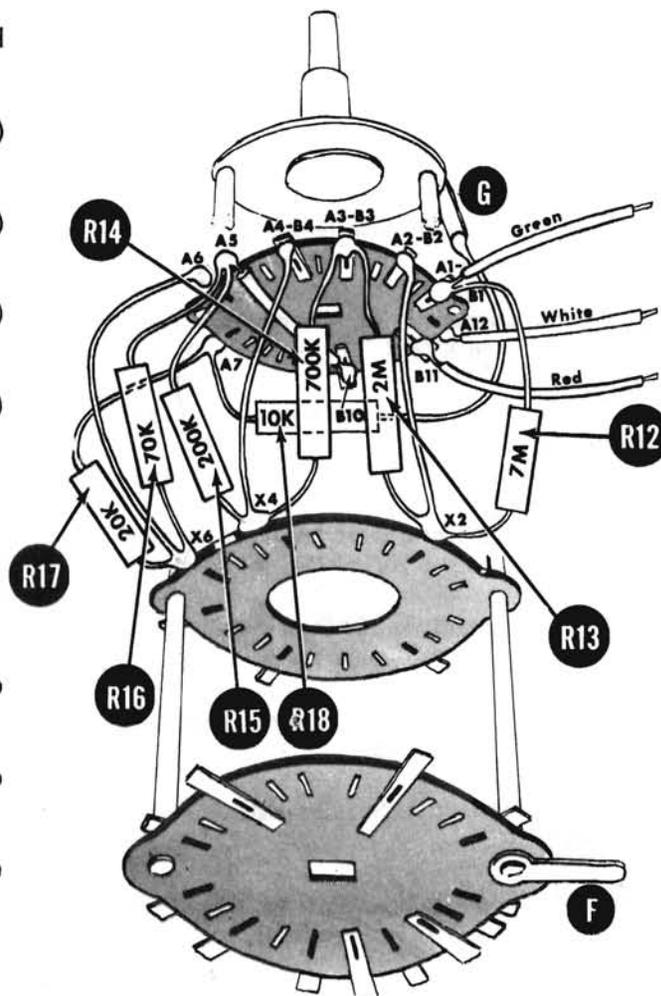
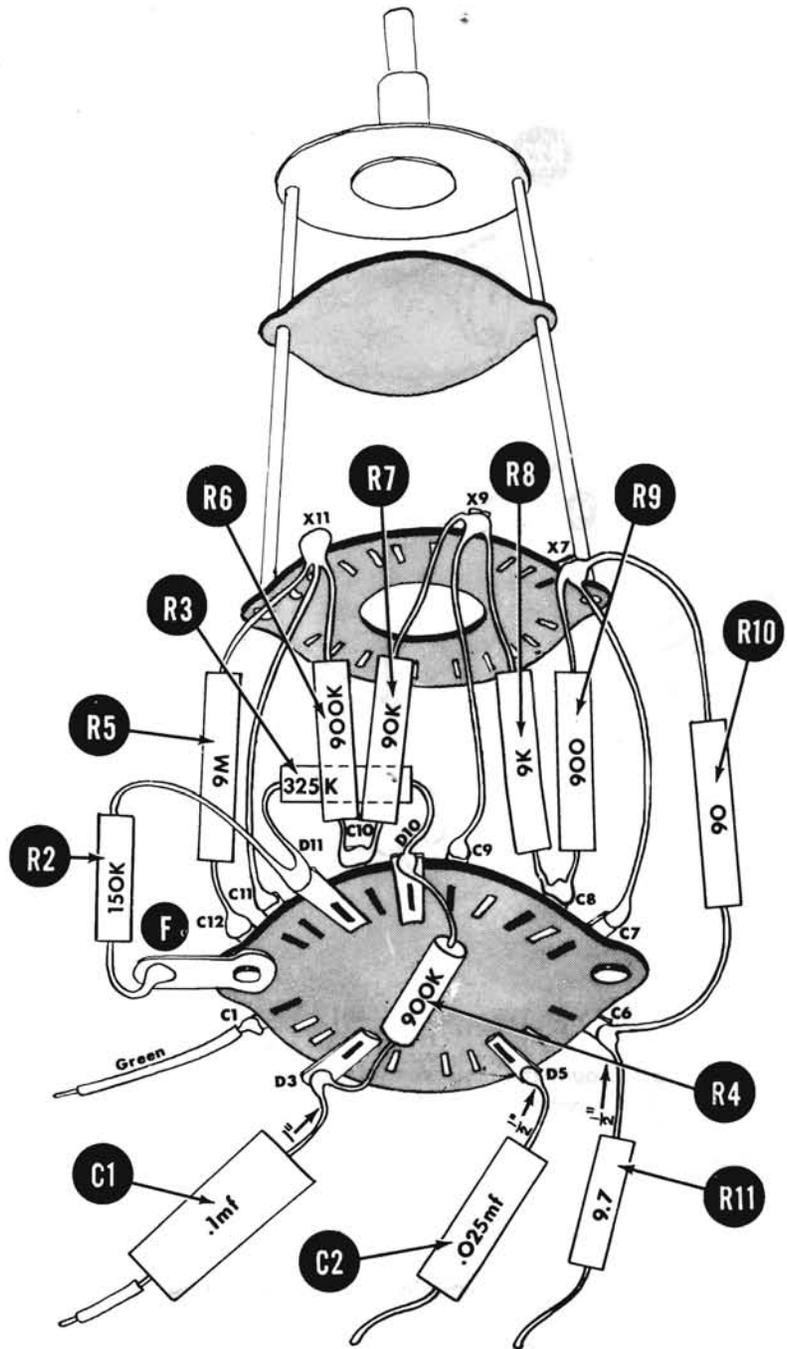

Fig. 4
Fig. 5
IMPORTANT: Before prewiring S2, see Fig. 4 and note the position of lug "F" on the rear wafer in relation to how the switch is being viewed in the drawing. This should enable you to correctly identify the contacts on the actual switch that correspond to the contacts shown in Fig. 4.
- (✓) Fig. 4. Connect a length of hook-up wire from A5 (C) to B10 (S). The A side of the wafer is closest to the detent mechanism.
- (✓) Fig. 4. Connect a length of bare wire from A6 (S) to X6 (C). The X designation will be used for the switch wafer containing the dummy lugs.
- (✓) Fig. 4. Connect a length of bare wire from A4-B4 (S) to X4 (C). When the double designation A4-B4 is used, it means the two switch lugs are electrically connected together by the rivet holding them to the wafer.
- (✓) Fig. 4. Connect a length of bare wire from A2-B2 (S) to X2 (C).
- (✓) Fig. 4. Connect the 10 KΩ resistor R18 from ground lug "G" (S) to A7 (C).
- (✓) Fig. 4. Connect the 20 KΩ resistor R17 from A7 (S) to X6 (C).
- (✓) Fig. 4. Connect the 70 KΩ resistor R16 from X6 (S) to A5 (C).
- (✓) Fig. 4. Connect the 200 KΩ resistor R15 from A5 (S) to X4 (C).
- (✓) Fig. 4. Connect the 700 KΩ resistor R14 from X4 (S) to A3-B3 (C).
- (✓) Fig. 4. Connect the 2 MΩ resistor R13 from A3-B3 (S) to X2 (C).
- (✓) Fig. 4. Connect the 7 MΩ resistor R12 from X2 (S) to A1-B1 (C).
- (✓) Fig. 4. Connect a 5 in. length of green hook-up wire to A1-B1 (S).
- (✓) Fig. 4. Connect a 4 in. length of white hook-up wire to A12 (S).
- (✓) Fig. 4. Connect a 6 in. length of red hook-up wire to B11 (S).
() Fig. 5. Note that in Fig. 5 the switch is being viewed from the side that faced away from the observer in Fig. 4. Again note the position of lug "F" on the rear wafer in relation to how the switch is being viewed in the drawing. This should enable you to correctly identify the contacts on the actual switch that correspond to the contacts shown in Fig. 5.
- () Fig. 5. Connect a length of bare wire from C11 (S) to X11 (C).
- () Fig. 5. Connect a length of bare wire from C9 (S) to X9 (C).
- () Fig. 5. Connect a length of bare wire from C7 (S) to X7 (C).
- () Fig. 5. Connect the 9MΩ resistor R5 from C12 (S) to X11 (C).
- () Fig. 5. Connect the 900 KΩ (1/2 watt) resistor R6 from X11 (S) to C10 (C).
- () Fig. 5. Connect the 90 KΩ resistor R7 from C10 (S) to X9 (C).
- () Fig. 5. Connect the 9 KΩ resistor R8 from X9 (S) to C8 (C).
- () Fig. 5. Connect the 900 Ω resistor R9 from C8 (S) to X7 (C).
- () Fig. 5. Connect the 90 Ω resistor R10 from X7 (S) to C6 (C).
- () Fig. 5. Connect the 9.7 Ω resistor R11 to C6 (S).
- () Fig. 5. Connect the 150 KΩ resistor R2 from gnd lug F (S) to D11 (C).
- () Fig. 5. Connect the 325 KΩ resistor R3 from D11 (S) to D10 (C).
- () Fig. 5. Connect the 900 KΩ (1 watt) resistor R4 from D10 (S) to D3 (C).
- () Fig. 5. Connect the .1 mf capacitor C1 to D3 (S).